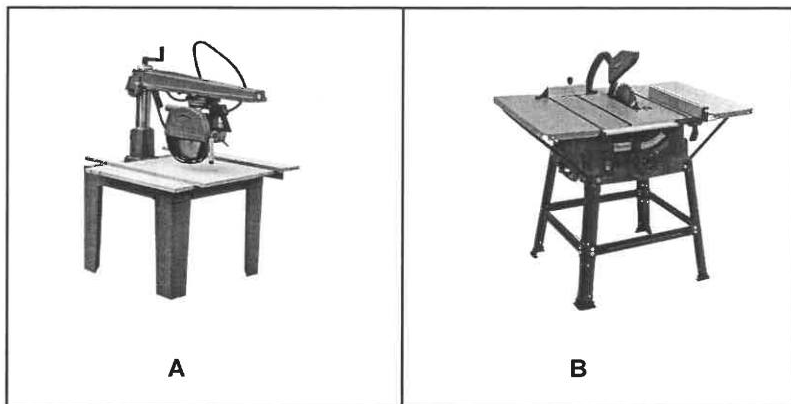

FIGURE 4.2
- 4.2 FIGURE 4.2 below shows TWO woodworking machines. Study the pictures and answer the questions that follow.